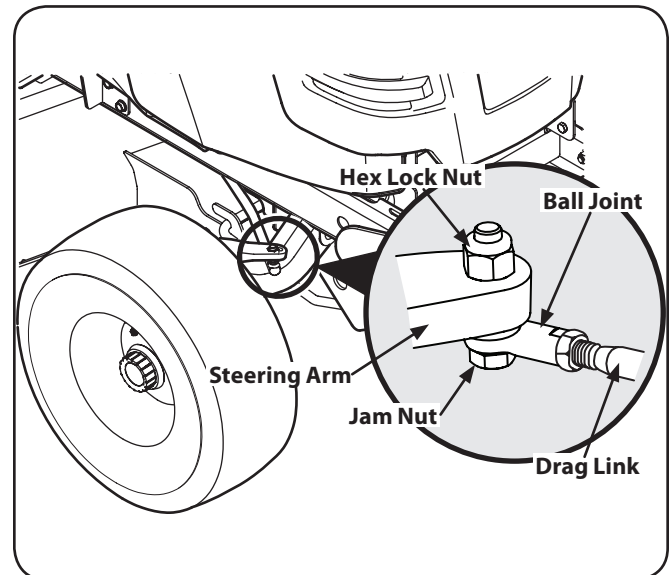

Figure 6-9
5. Loosen the jam nuts from the ball joints. See Fig. 6-9.
6. Disconnect the front ball joints from the steering arms by removing the hex lock nuts. Refer to Fig. 6-9. Manually move each wheel to achieve the required toe-in and equal D measurements.